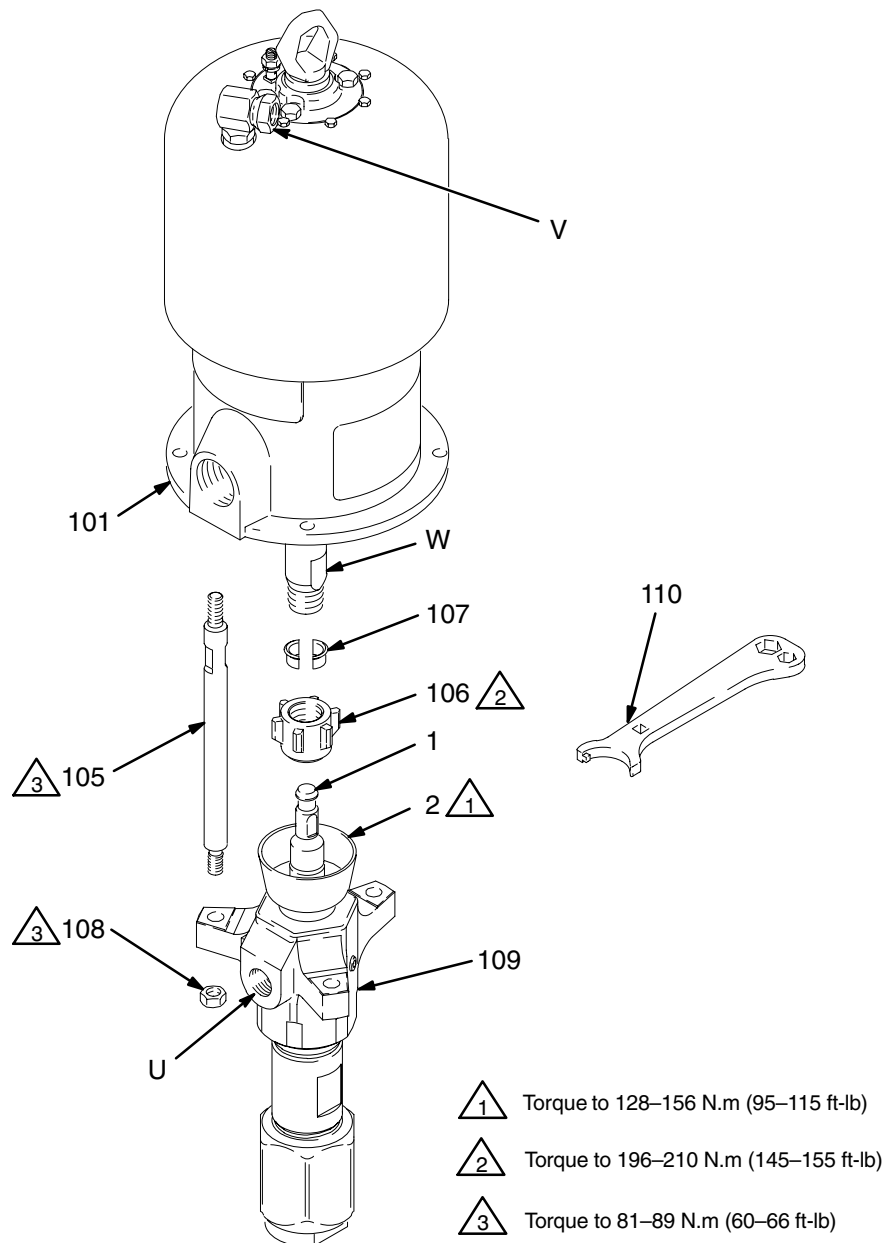

Fig. 5
4. Disconnect the displacement pump (109) from the motor (101) as follows. Note the relative position of the pump's fluid outlet (U) to the air (V) or hydraulic inlet of the motor. If the motor does not require servicing, leave it attached to its mounting. See Fig. 5.
5. Using an adjustable wrench (or hammer and punch), unscrew the coupling nut (106) from the motor shaft (W). Take care not to lose or drop the coupling collars (107). See Fig. 5.
6. Hold the tie rod flats with a wrench to keep the rods from turning. Unscrew the nuts (108) from the tie rods (105). Carefully remove the displacement pump (109) from the motor (101).
1. Make sure the coupling nut (106) and the coupling collars (107) are in place on the displacement rod (1). See Fig. 5.
2. Use at least two people to hold the displacement pump while another reconnects it to the motor (see the **CAUTION** at left). Orient the pump's fluid outlet (U) to the air inlet (V) or hydraulic inlet as was noted in step 4 under **Disconnecting the Displacement Pump**. Position the displacement pump (109) on the tie rods (105).
3. Screw the nuts (108) onto the tie rods (105) and torque to 81–89 N.m (60–66 ft-lb).